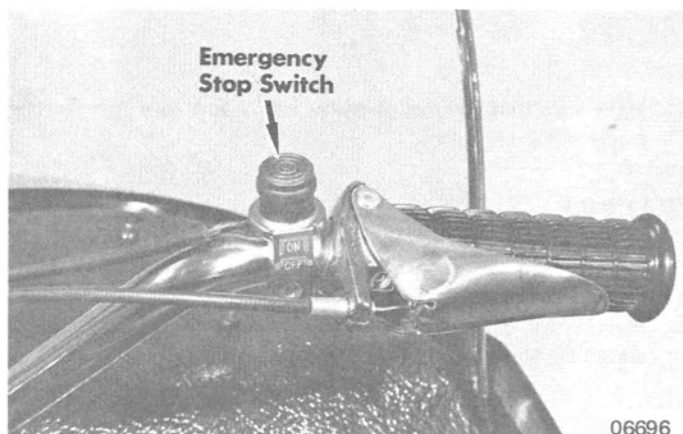

Figure 2. Throttle/Emergency Stop Switch
4. Loosen set screw in throttle lever. (Figure 2) Slide lever against handlebar grip and pull grip and lever off handlebar. Pull throttle cable thru dash opening.
### STOP SWITCH (Figure 2)
4. Loosen set screw in brake lever (Figure 2), slide lever against handlebar grip and pull grip and lever off handlebar. Pull brake cable thru dash opening.